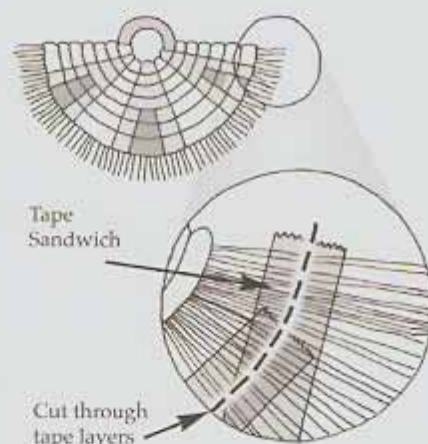

Fig. 7
2. Natural Fringe - For a natural-looking fringe, leave off the beads and untwist the fibers to make them look fuller. To cut them off evenly, put a piece of scotch tape under and over the area that you want to trim (make a kind of cord sandwich) and cut right through the tape. Remove all excess tape and you're done (see Figure 7).